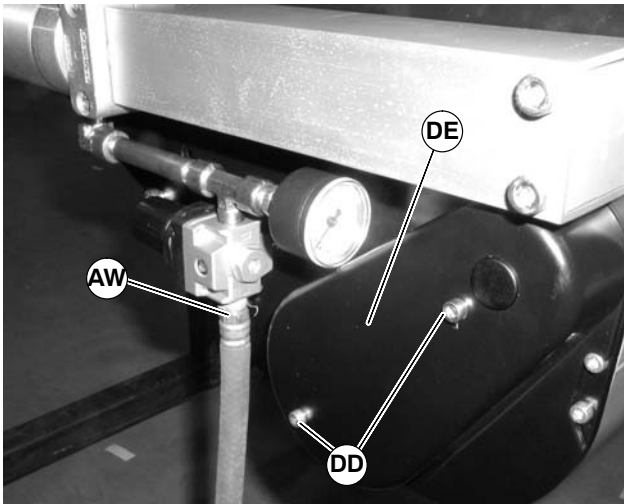

Figure 109
1. Remove air supply (AW of Figure 109) from center drive module.
2. Remove screws (DD of Figure 109) and cover (DE).
8. Reinstall cover (DE of Figure 109). Tighten screws (DD) to 69 in-lbs (8 N-m).